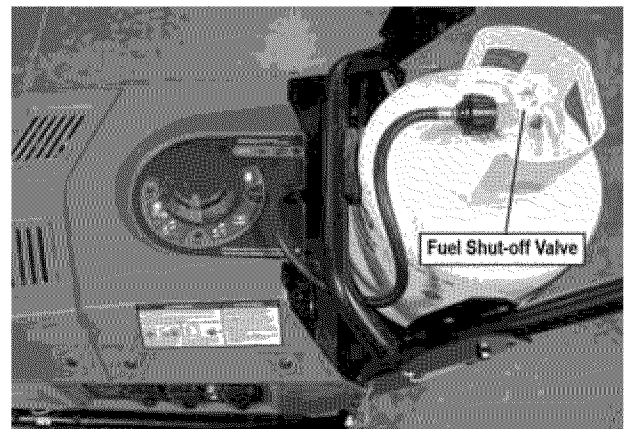

Figure 3-2: Position Tank
- Lift the tank and place carefully in the rear tank bracket with the connection point facing the front of the generator (Figure 3-2).
3. OPEN the Fuel Shut-off Valve on the cylinder (Figure 3-2).